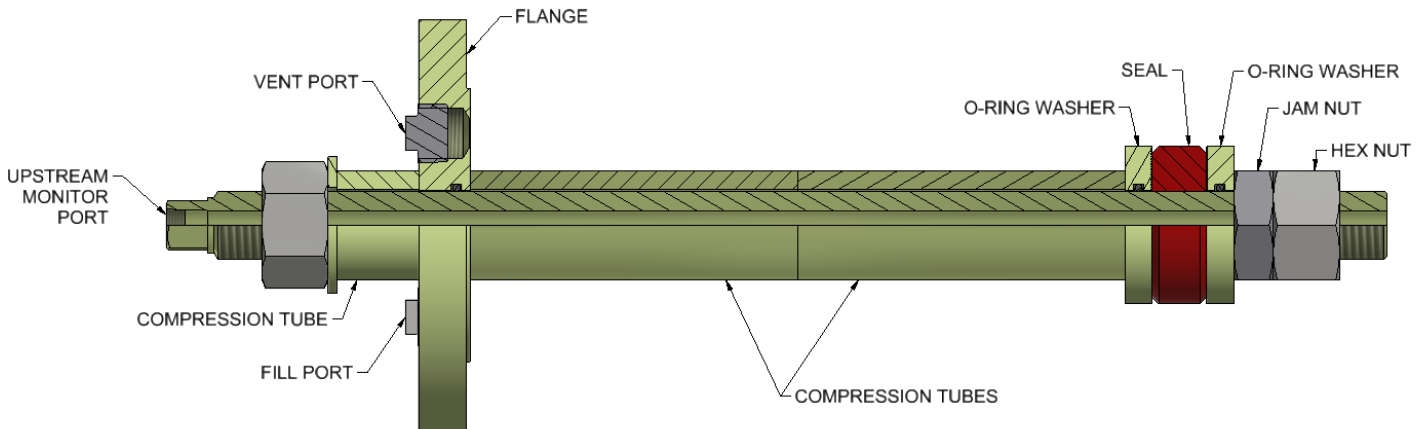

Figure 2: High Lift Flange Weld Test Plug, 1-1/4" Through 3" Plug Sizes, Shown in WP Configuration
**1-1/4" To 3" Plug Sizes (refer to Figure 2)**